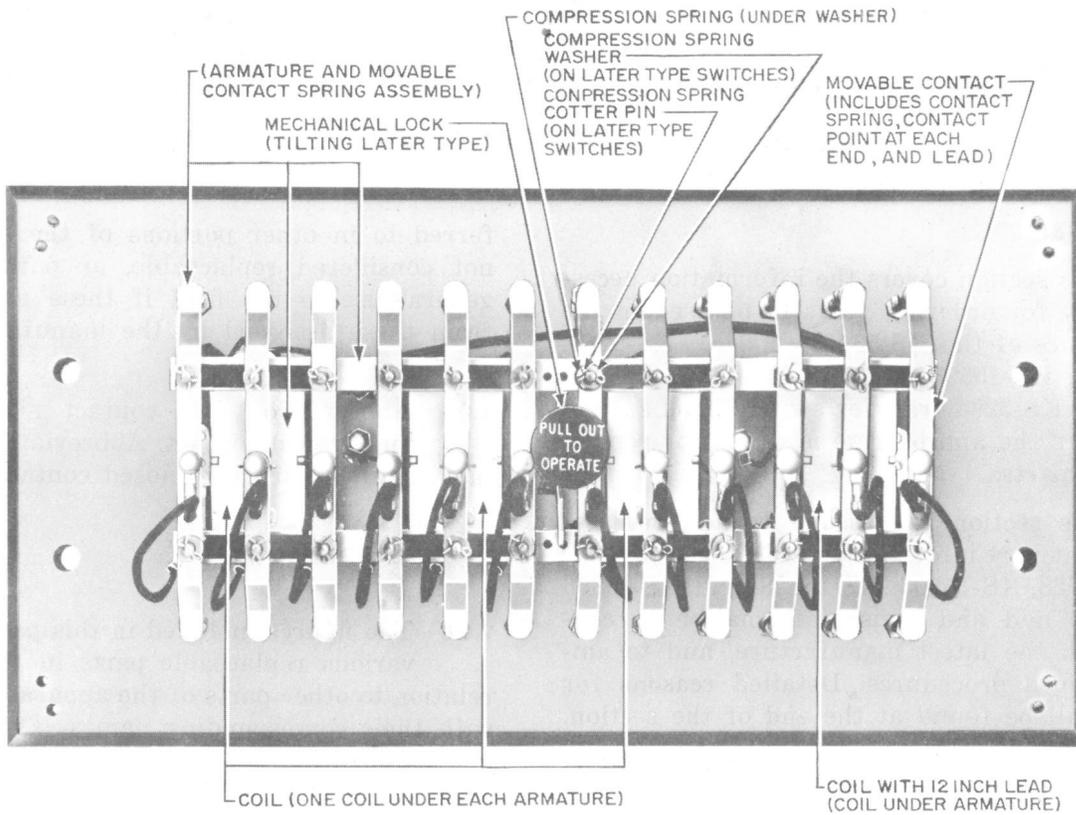

Fig. 1 - KS-5264 Transfer Switch — Front View
1. To add replacement information for the KS-5264 transfer switch due to change in manufacture (Fig. 1 and 3.16).